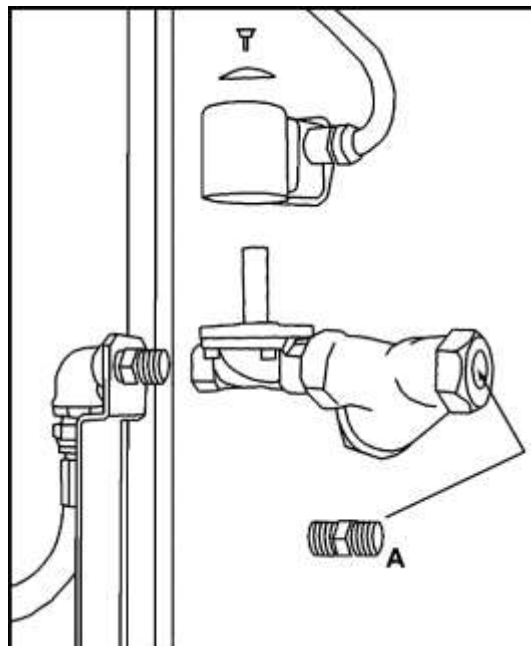

Fig. 3.8
**Machines USA/Canada:** place the small steam inlet hose (**A**, Fig. 3.8) to the filter inlet, (The end with **NPT** thread must be assembled to the steam conduits; the end with **GAS** thread must be connected to the filter).